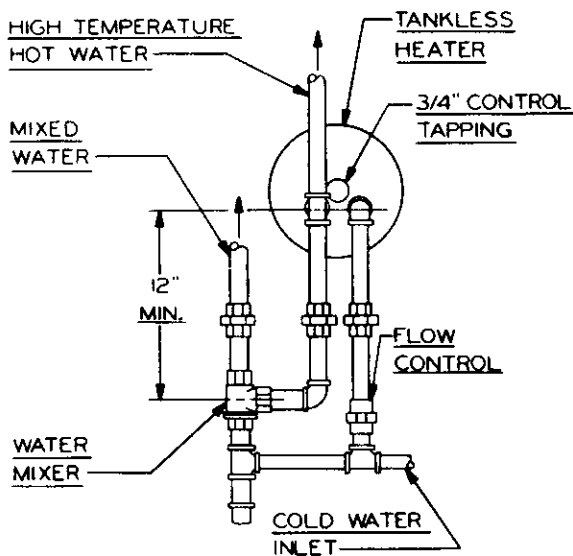

FIGURE 3
- 1— Refer to Page 4 for exploded view. Attach the back jacket panel (19) to bosses on middle of back section with two 1/4" x 3/8" truss head machine screws (20) provided. The back panel has two 5/16" dia. holes close to the center of the panel.
- 3— Place the front jacket panel (23) on the block and attach the combustion chamber cover plate assembly (3).
- 4— Attach the right side jacket panel (22) to the front and back panels with sheet metal screws.
**NOTE:** ON SERIES SCT BOILERS, THE OPTIONAL WATER HEATER (17) MUST BE INSTALLED BEFORE THE LEFT SIDE JACKET PANEL IS ATTACHED.
- 5— If water heater is used, remove knock out piece in left side jacket panel (21) before installing. Attach left side jacket panel in the same manner as the right side panel.
Install Water Heater (13) when required, in large opening in front of boiler. See Figure 3 for suggested piping.